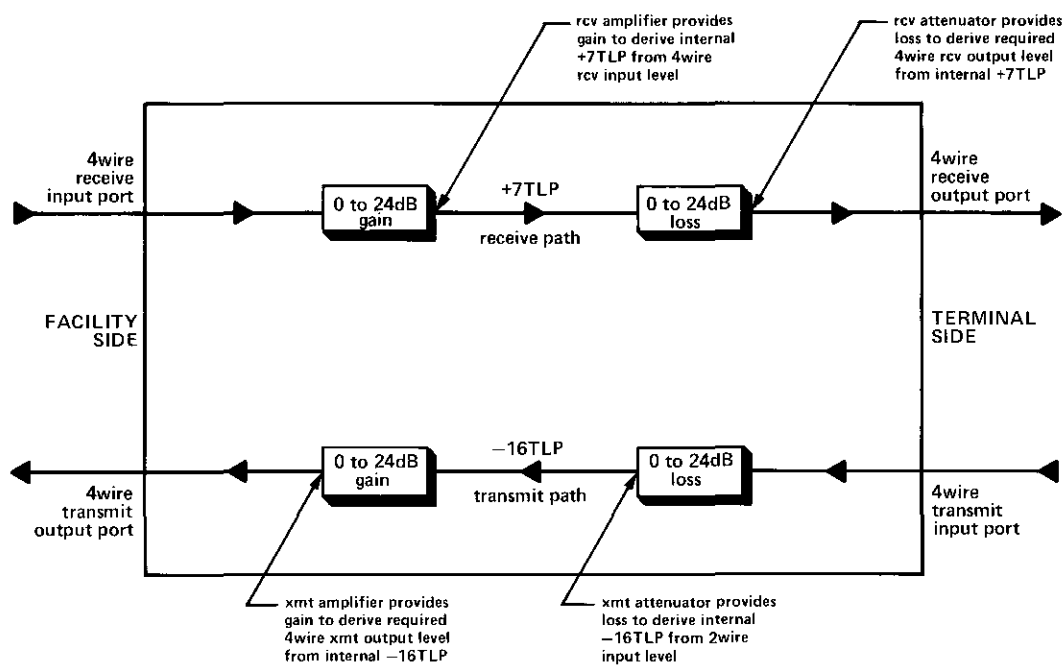

figure 5. Level coordination in 6047 and 6047A
2.06 Prescription-set transmit and receive amplifiers on the facility side of the 6047 and 6047A allow each module to interface the SF signaling facility directly, i.e., without a separate facility-side line amplifier. The module's amplifiers, in conjunction with the prescription-set transmit and receive attenuators on the module's terminal side, provide for full coordination between facility-side and terminal-side levels (see figure 5). In the receive channel, the facility-side amplifier is set to provide the gain necessary to derive a +7 transmission level point (TLP) within the module. This internal TLP is then used as a reference as the module's terminal-side receive attenuator is set to provide